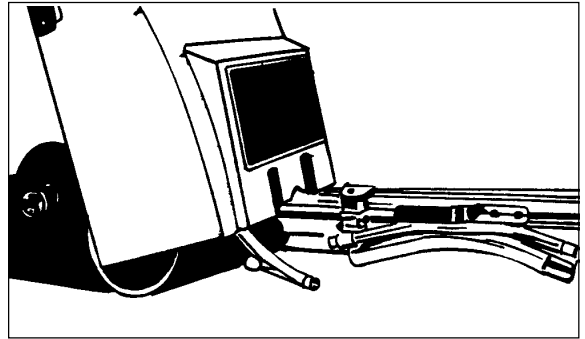

Figure 2
5. Put the handle in position. See figure 2